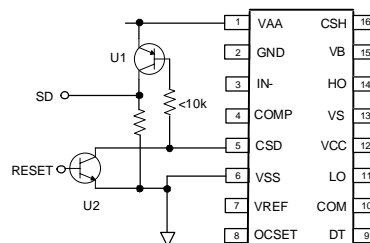

Figure 12 Interfacing with Host Controller
The IRS2092(S) can communicate with an external system controller through a simple interfacing circuit shown in Figure 12. A generic PNP transistor U1 detects the sink current at the CSD pin during an OCP event and outputs a shutdown signal to an external system controller. Another generic NPN transistor U2 can then reset the internal protection logic by pulling the CSD voltage below the lower threshold V_{th2} for a minimum of 200ns. Note that the CSD pin is configured to operate in latched OCP. After the power up sequence, a reset signal to the CSD pin is required to release the IC from shutdown mode.